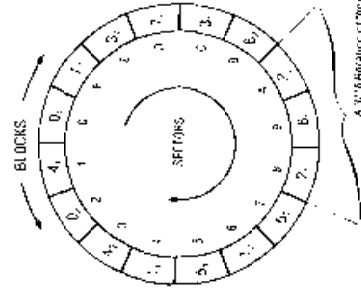

Figure 3.14 Block Interleaving (Track 0)
In ProDOS, the interleaving is done in software. The 16 sectors are in numerically ascending order on the diskette (0, 1, 2, . . . 15), and are not physically interleaved at all. An algorithm is used to translate block numbers into physical sector numbers used by the ProDOS device driver. For example, if the block number requested were 2, this would be translated to track 0, physical sectors 8 and A. * Figure 3.14 illustrates the concept of **software interleaving** and Table 3.1 shows the mapping of physical sectors to blocks for a Disk II or compatible drive.
Assume that we wish to access block 2. ProDOS passes the request to the device driver which in turn converts the block number into its track and sector representation (see Figure 3.14). The arm is moved to the proper track (0) and then a sector is read. This could be any sector, because the diskette is spinning. Sectors are continually read until sector 8 is found. The following two sectors are then read (9 and A) which completes the read of block 2 (sectors 8 and A). Depending on where we start on the track, we could read between 3 and 18 sectors. The same process occurs when writing a single block, with one small difference. After sector 8 is located and written to, the delay required to ready the data for sector A will cause us to miss reading sector 9. This does not alter the amount of rotation necessary to complete the task. To summarize, the time required to either read or write a **single block** consists of two factors. (We are assuming the track has already been located). First, there is the time required to locate the first sector of the block—this is variable and ranges between 0 and the time of one full rotation of the diskette. Second is the time required to actually read or write the two sectors that make up the block—this is fixed and always requires $\frac{3}{16}$ rotation of the diskette.